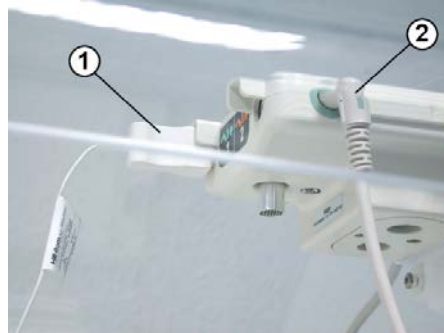

Fig. 14 Sensor module: Connectors for skin temperature sensor (1) and scale (2)
- 7 Unplug the connector(s) (Fig. 14/1) of any skin temperature probes (option) from the sensor module
- 8 Unplug the connector (Fig. 14/2) of the weighing scale (if present) from the sensor module